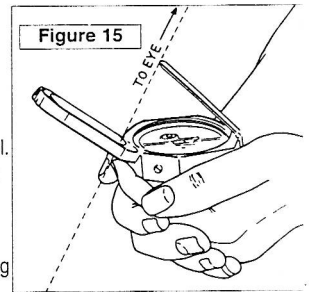

Figure 15
2. Open cover away from your body to approximately 45° from level. (Fig 15)
3. Open large sight, until it leans over the body at approximately 45°. (Fig 15)
6. Look just over the large sight, and at the object through window opening on mirror. (Fig 15)